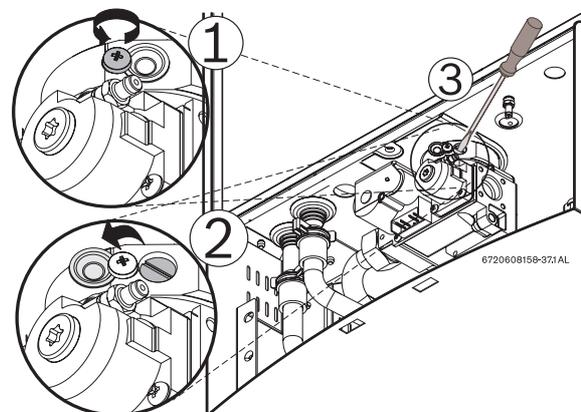

Fig. 63 Adjusting P1 CO₂ level
- ▶ Loosen yellow painted philips screw (1) and cover should rotate down (2) revealing a recessed brass slotted screw. Fig. 63.